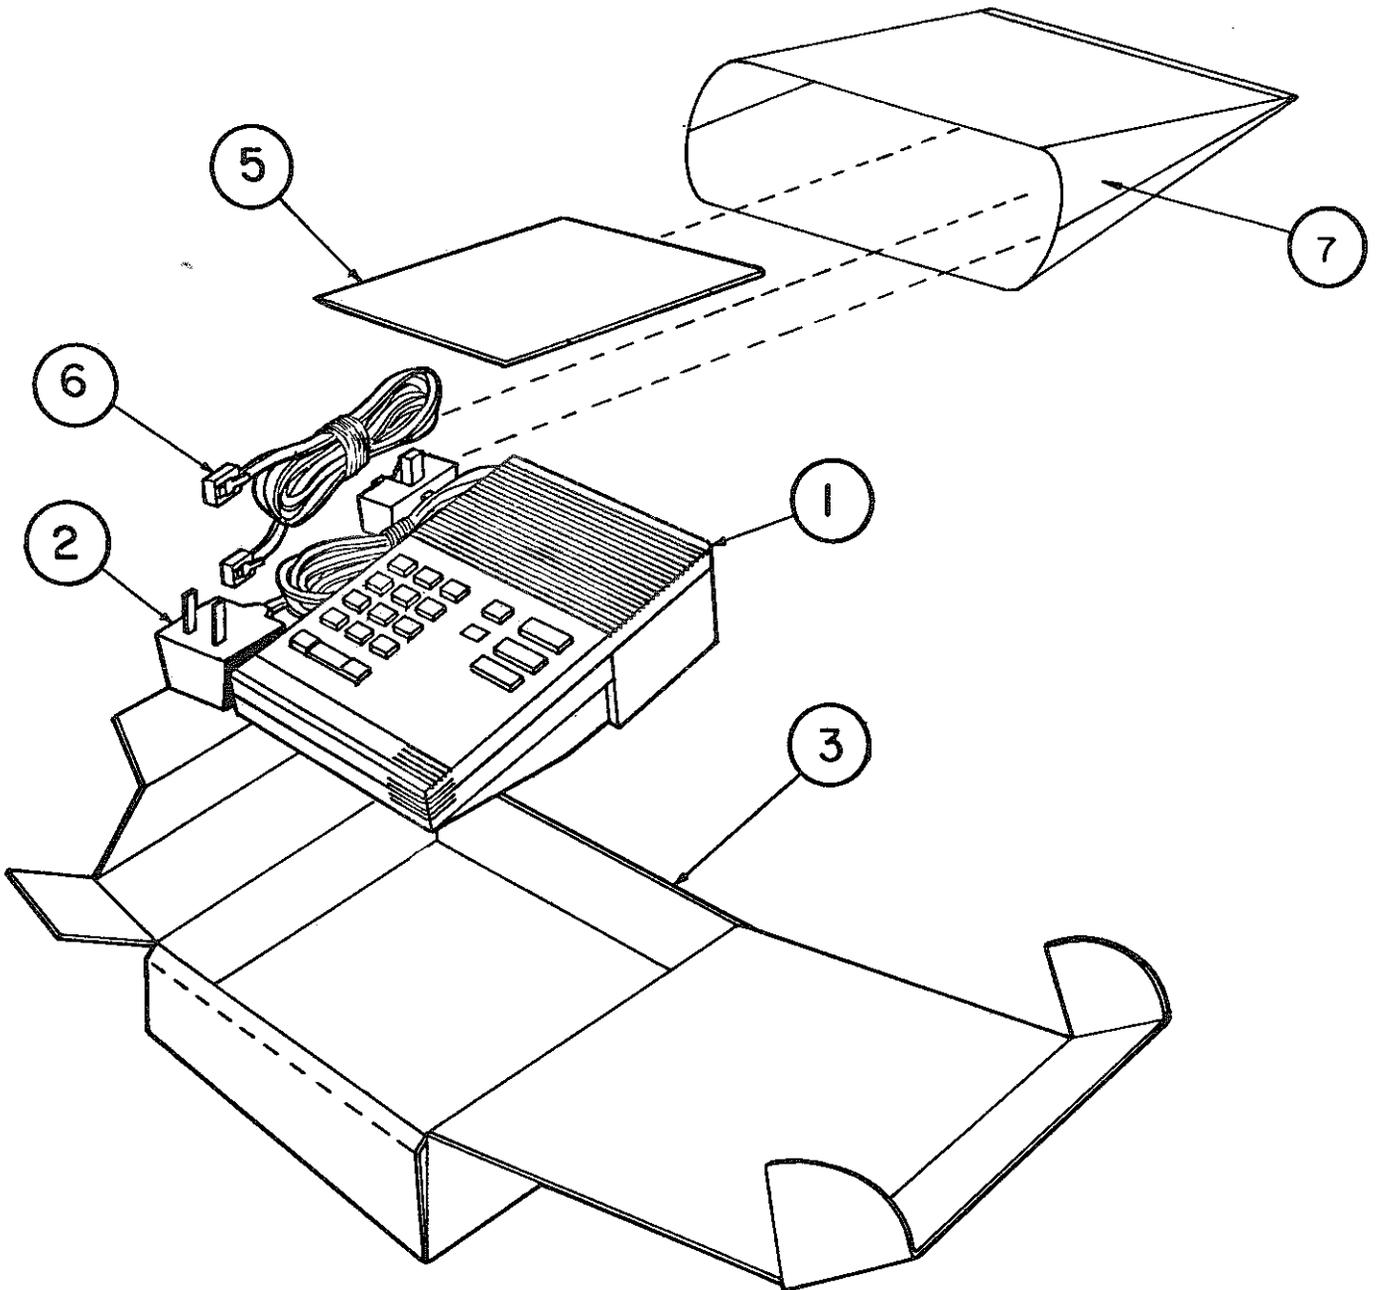

Fig. 2 — Identification of Parts
- 4.06 The NT1L06AA handsfree unit comprises a NT1L0601 handsfree assembly, an NT1L0404 power supply and an NE-D8QT modular cord. Table A provides parts identification for the NT1L06AA handsfree unit, while Fig. 2 and Table B provide assembly and parts identification for the NT1L0601 handsfree assembly.
(REFER TO FIG. 2)**